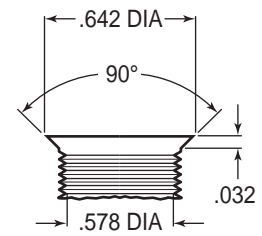

Figure 3. Drill and Tap Detail
- NOTE:** 1964-66 spindles may require the following modifications (reference Figure 1 and Figure 3): Top anchor pin hole (Z) must be drilled and tapped to the dimensions as outlined in Figure 3. Bottom rear steering arm bolt hole (Y) in the spindle and steering arm must be enlarged to .50" by drilling. A 1/2-20 backing nut (not supplied in kit) will need to be acquired to torque bracket / steering arm bolt (supplied in kit).
- Apply red Loctite® 271 to bolt threads (3 and 4, or 4A for disc spindle application) before assembly of the caliper mounting bracket (1). Mount bracket (1) to dust face plate of spindle using the bottom bolt (3) while positioning spacer (2) between bracket and spindle face, finger tighten only. Install the upper bolt (4, or 4A with spacer 2A positioned between bracket and top hole of spindle face), torque to 120 ft-lb. Torque bolts (3) to 77 ft-lb. **NOTE:** Be sure the heads of the bracket (1) insert nuts are facing outward toward the wheel. **NOTE:** Because of a tolerance variation among spindles, it may be necessary to install a shim washer (21 and/or 22) between the spacers (2 and/or 2A) and the bracket (1) in order to square the bracket to the rotor.
- Install wheel studs (5) into the hub (6). Torque to 77 ft-lb. **NOTE:** There are two five lug patterns in the hub (5 x 4.50 and 5 x 4.75). Make sure of the correct hole pattern for the correct wheel application before installing studs into hub.
- Pack the large inner bearing cone (7) with high temperature disc brake bearing grease (available from your local auto parts store) and install into the backside of the hub (6).
- Install the grease seal (8) by pressing into the backside of the hub (6).